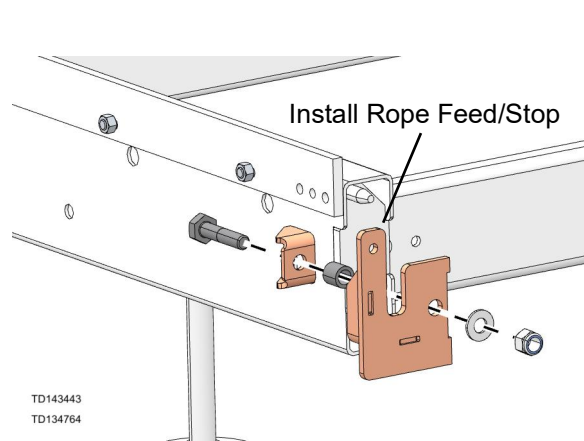

FIG. 2
2. Install a feed rope/stop bracket at each end of bed assembly using a 1/2-13 x 2 1/4" hex head bolt, spacer, flat washer and nylon lock nut as shown in FIG. 2.